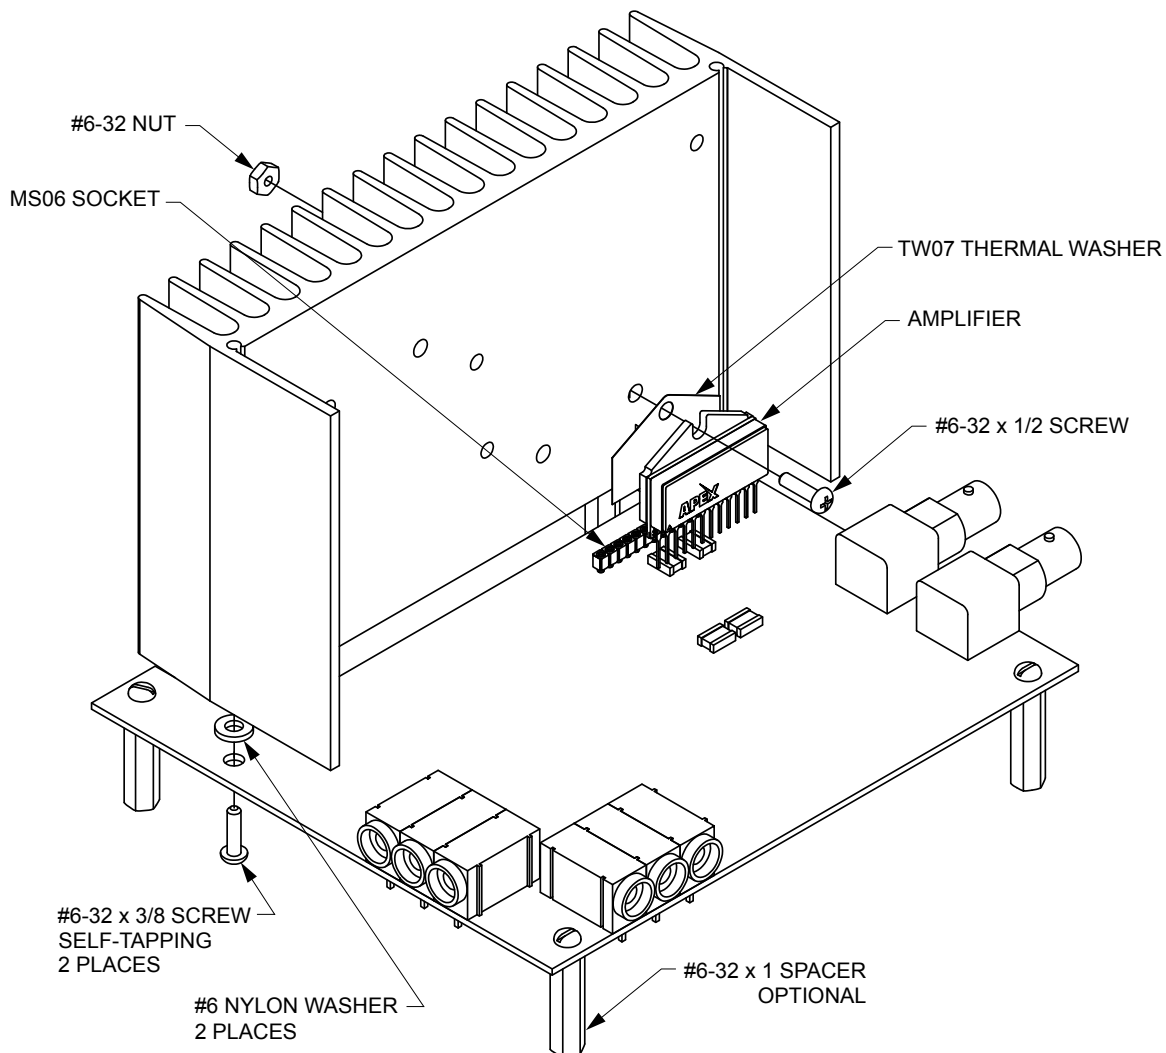

FIGURE 1.
5. Install leads of the DUT into the the MS06 on the evaluation board. Use #6 self-tapping screws to secure the evaluation board to the HS20 heatsink as shown in the assembly diagram (Figure1).